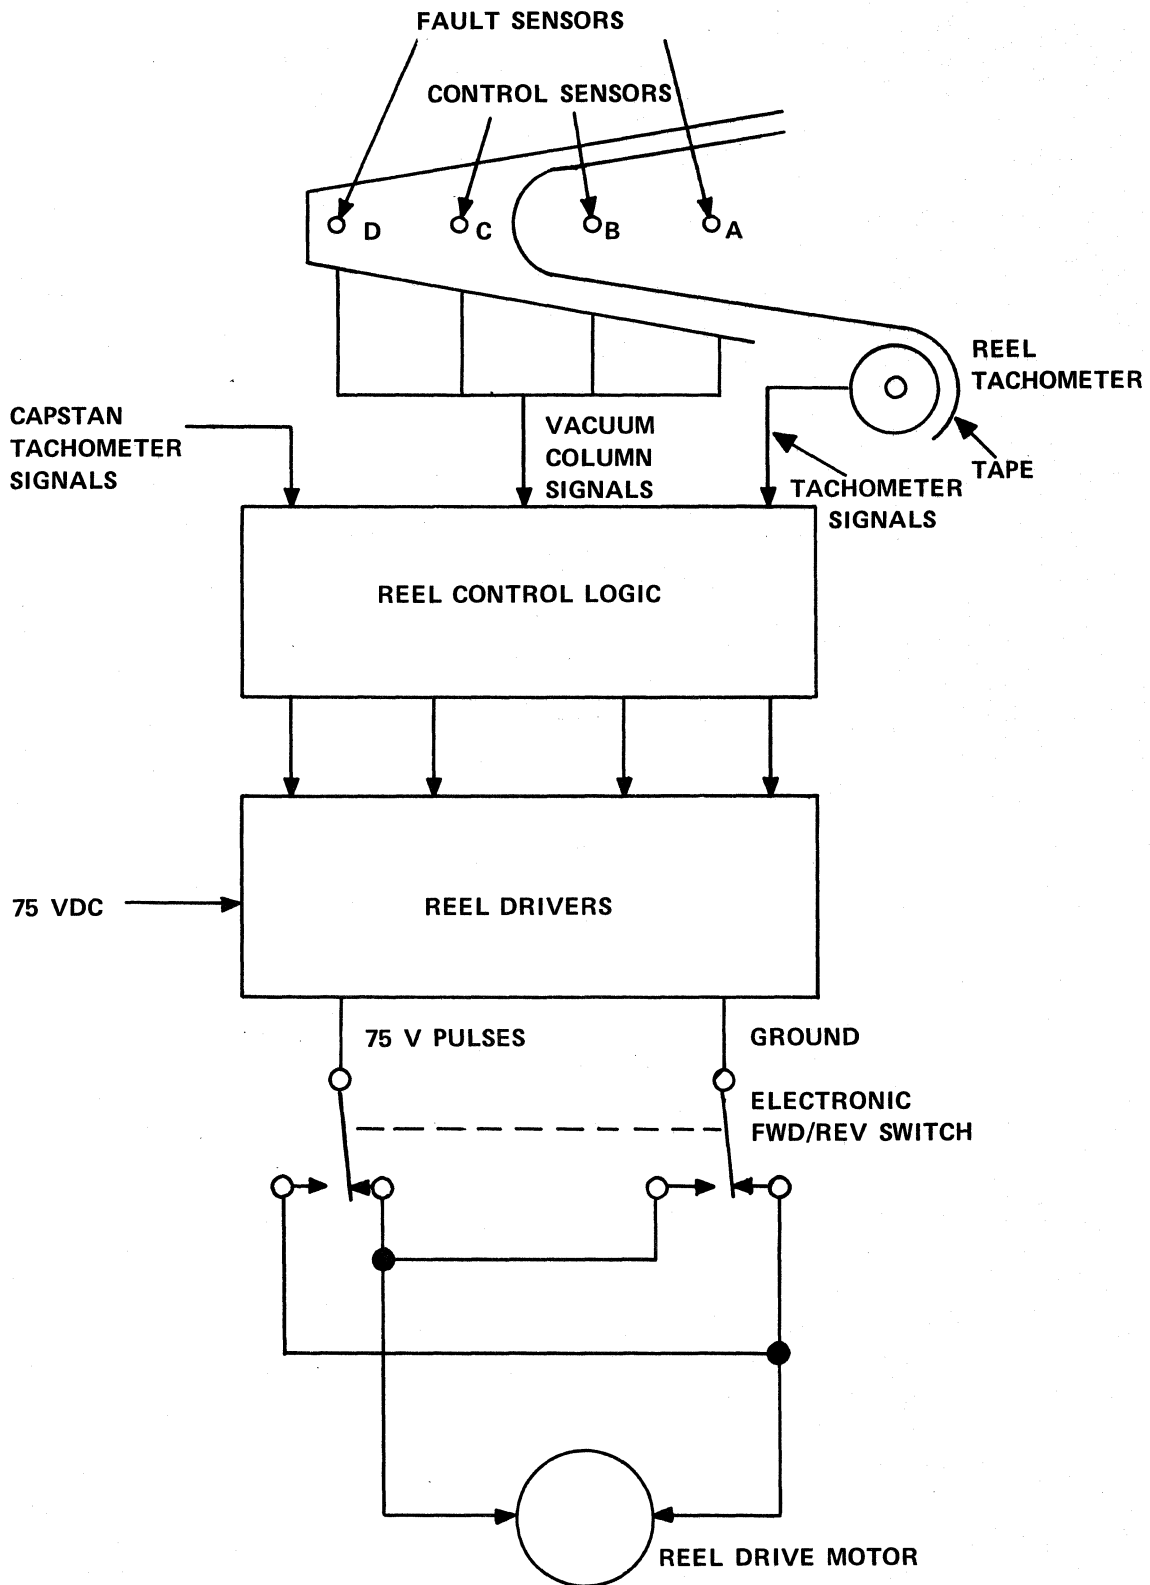

Figure 4-4. Reel Drive Control, Simplified Block Diagram
k. REEL SERVO SYSTEM. - The MTT contains two identical but functionally independent reel servo systems (figure 4-4), one for each of the two reel drive motors. Input signals to the reel control logic are received primarily from the reel tachometers which detect tape speed, from the capstan logic, and from the vacuum/pressure sensors in the tape buffer columns. The resulting drive signals are applied to the reel motors to drive in either direction, accelerate, operate at rewind speed, slow down, brake, stop, or hold after stop.